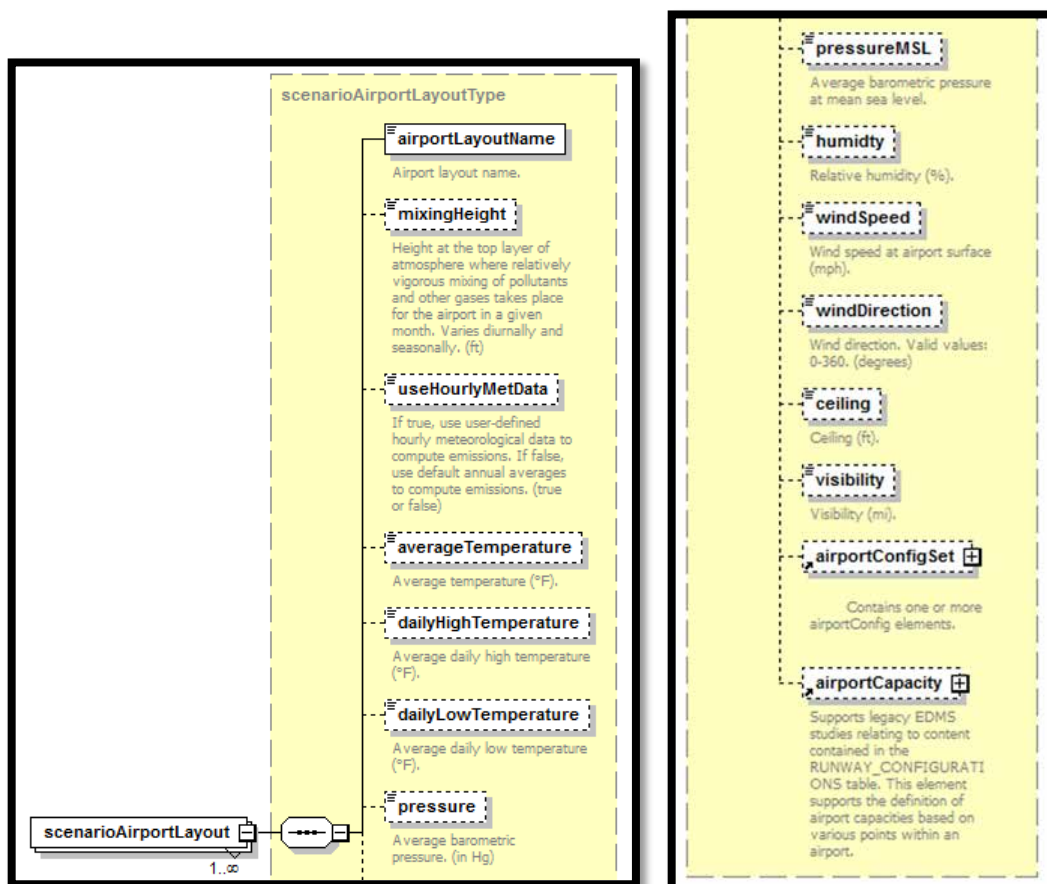

Figure 50. XML element scenarioAirportLayoutType
2. AsifXml/study/airportLayoutSet/airportLayoutType (Figure 50):
The `scenarioAirportLayoutType` is a subset of the `airportLayoutType` (see Figure 50).